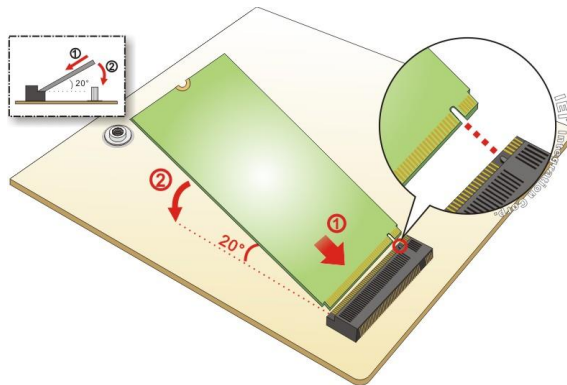

Figure 3-4: M.2 Module Installation
- Step 4:** Secure the M.2 module with the retention screw. Push the other end of the M.2 module down and secure the module with the previously removed retention screw (**Figure 3-4**).